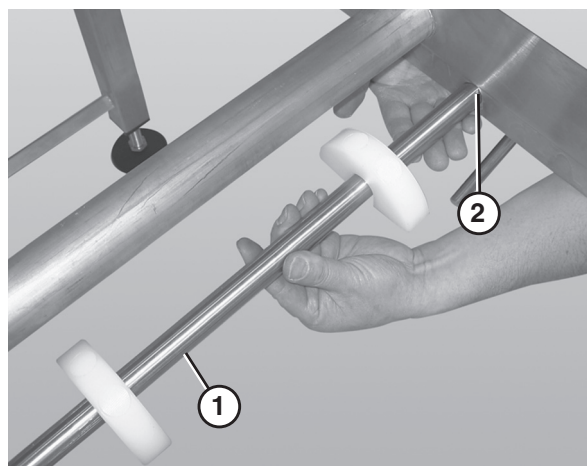

Figure 36
2. Slide the return shaft (**Figure 36, item 1**) up and through the large slot (**Figure 36, item 2**) in the frame (picture shown without the belt or wear strips).
3. Push up on the return shaft (**Figure 36, item 1**) and slide the notched end of the shaft through the small slot on the opposite side of the frame.